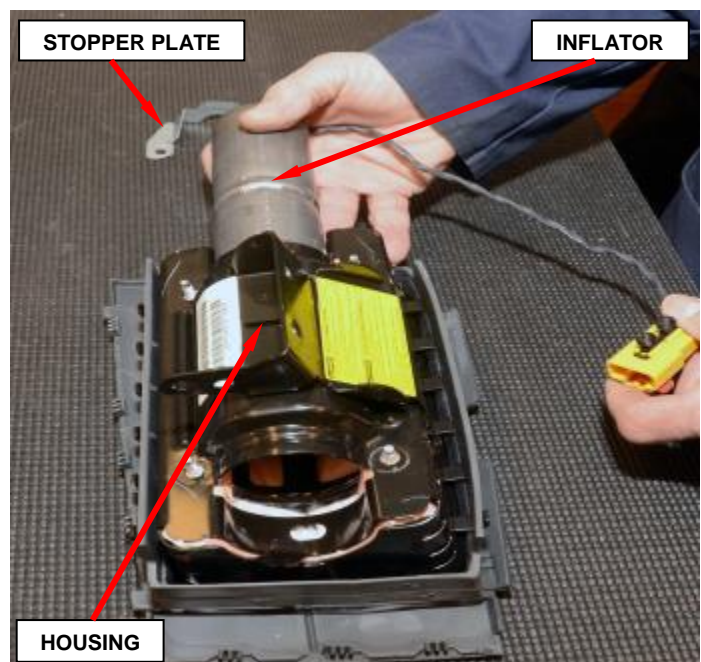

Figure 46 – Inflator Removal
- f. Slide the inflator out of the housing (Figure 46).
NOTE: The inflator is keyed to fit into the housing (Figure 46).